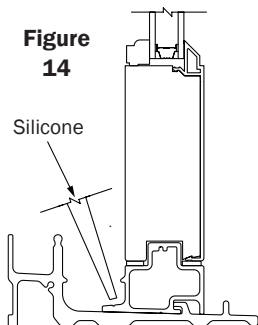
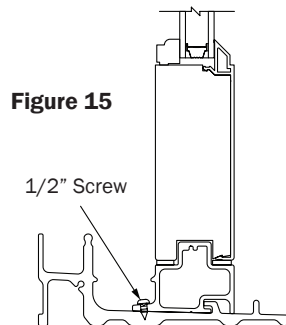

Figure 14
Figure 15
15. Place silicone into pre-drilled holes before screw placement (Fig. 14) and attach two (2) #7 x 1/2" Flat Head Screws through sill lug and into sill (Fig. 15).